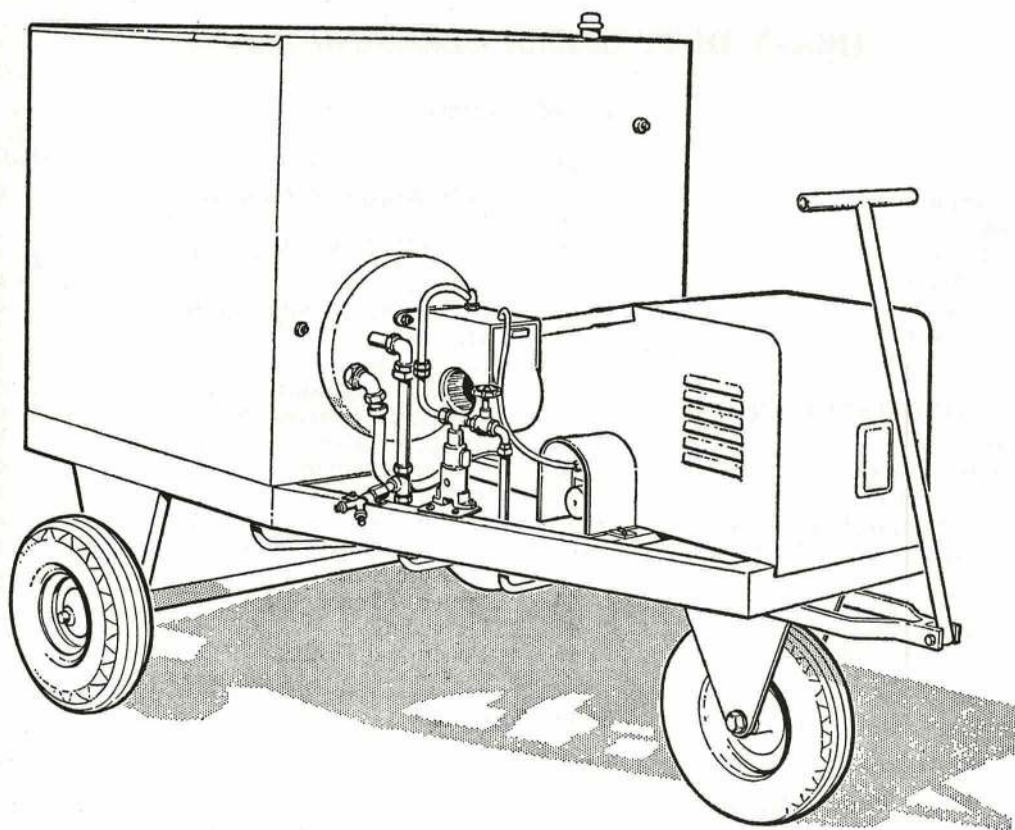

Fig. 1. HEAVY DUTY STEAM CLEANING PLANT—TYPE A
1. The heavy duty steam cleaning plant (Fig. 1) provides a jet of steam at high pressure for removing contaminants such as dirt, oil and grease from metal surfaces. The plant is mounted on a three-wheeled chassis for manual towing and is suitable for cleaning M.T. vehicles, heavy machinery, engine parts, ground equipment and the bilges of marine craft.